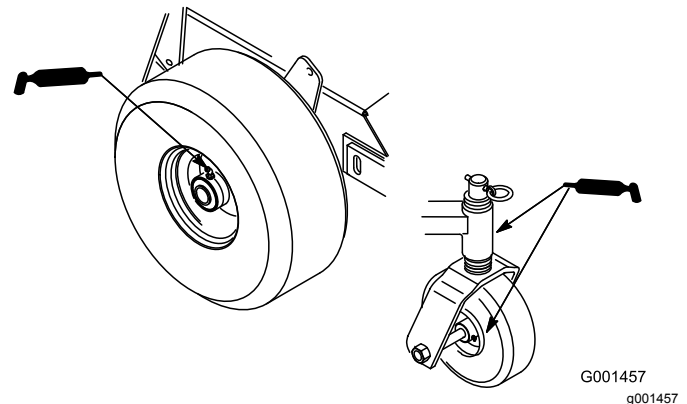

Figure 16
1. Lubricate the front wheel bearings and front spindles (Figure 16).
2. Lubricate the drive-wheel bearings (Figure 16).